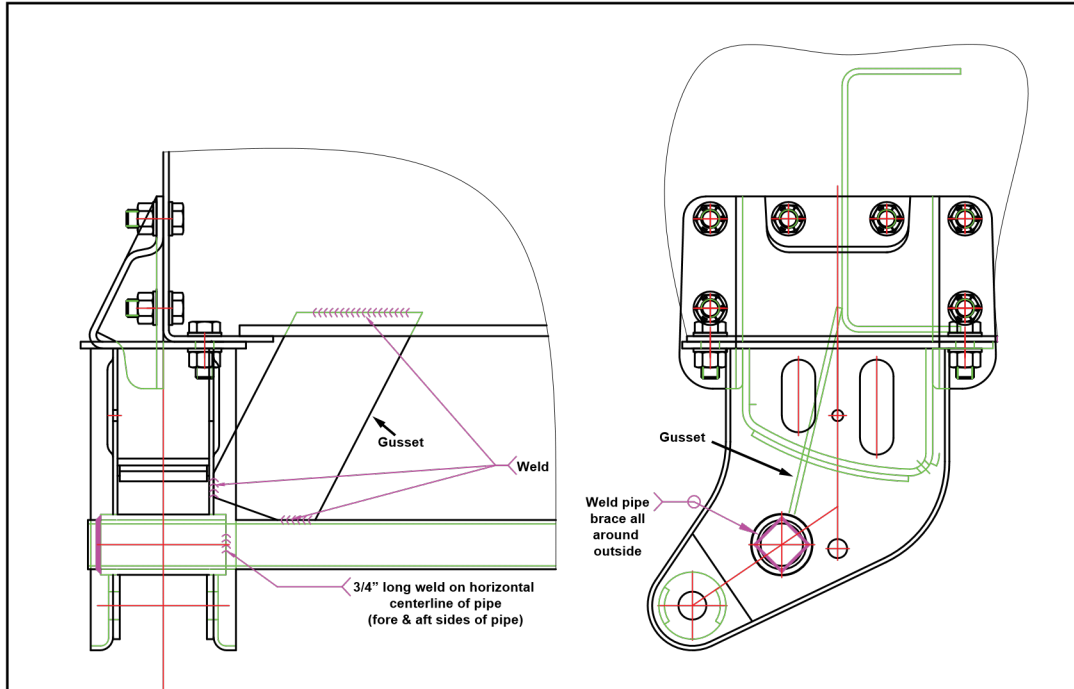

FIGURE 1
3. If used, gussets should be welded to pipes, insides of front and equalizer hangers and to the frame cross-members (see Straddlemount figures 1, 2, 3 and 4).